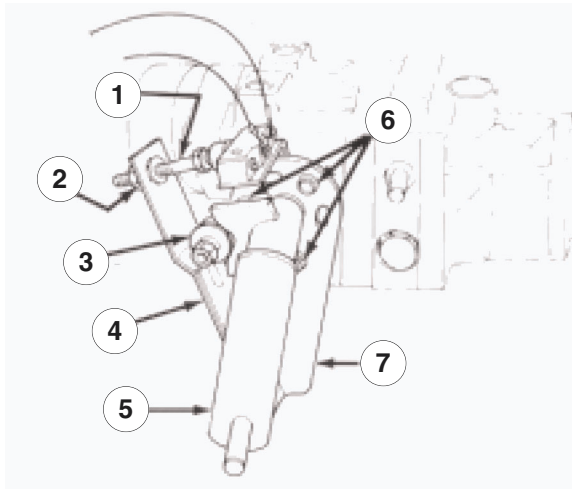

Figure 37
1. Park vehicle on a level surface and turn the engine off. Apply the parking brake, tip the seat forward, and actuate pump lever (Fig. 37) to ensure assembly is properly seated and operating freely. Correct any discrepancy.
6. Because the wheel is rotating, the pump plate must be adjusted. But before adjusting the pump plate, move the throttle to SLOW. If the wheel is rotating forward, loosen the capscrews, and lightly tap the bottom of the pump plate counterclockwise (Fig. 37). By contrast, tap the pump plate clockwise if wheel is rotating backward (Fig. 37). When the wheel stops rotating, tighten the capscrews holding the pump plate against the side of the transmission. Verify the adjustment with the throttle in the SLOW and FAST position.
11. Because the wheel is rotating, the pump plate must be adjusted. But before adjusting the pump plate, move the throttle to SLOW. If the wheel is rotating forward, loosen the capscrews, and lightly tap the bottom of the pump plate counterclockwise (Fig. 37). By contrast, tap the pump plate clockwise if the wheel is rotating backward (Fig. 37). When wheel stops rotating, tighten the capscrews holding the pump plate against the side of the transmission. Verify the adjustment with the throttle in the SLOW and
- Loose or worn out ball bearing (Fig. 37).
- Weak or damaged leaf springs (Fig. 37). Replace.
2. Actuate the pump lever (Fig. 37) to ensure all parts are operating freely and seated properly.
3. Loosen the jam nut. Rotate the switch adjusting screw (Fig. 37) until there is a gap between the head of the screw and the switch button.